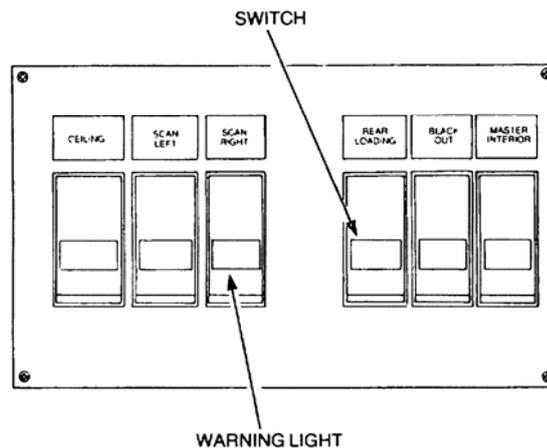

Figure 18 Secondary Switch Panel Removal
- b. Remove the screws securing the secondary switch panel to the module (refer Figure 18).